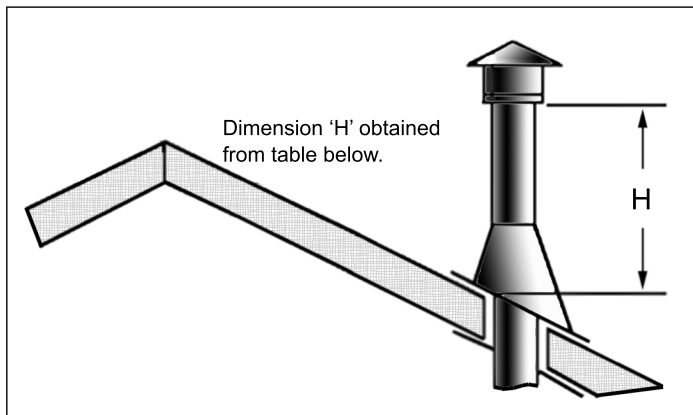

Figure 31: Height of Vertical Termination; Reference Table 6.
8. Continue to add pipe sections until the height of the vent cap meets the minimum code requirements. Refer to Figure 31 and Table 6. Note that for steep roof pitches, the vent height must be increased. In high wind conditions, nearby trees, adjoining roof lines, steep pitched roofs, and other similar factors can result in poor draft, or down drafting. In these cases, increasing the vent height may solve the problem.
Table 6: Minimum 'H' for Figure 31.